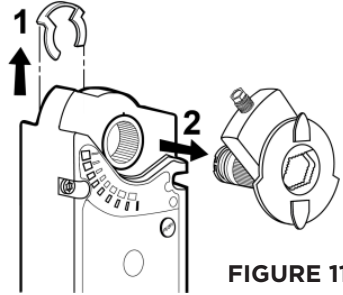

FIGURE 11
2. Remove the clip and shaft adapter from the actuator. See Figure 11.